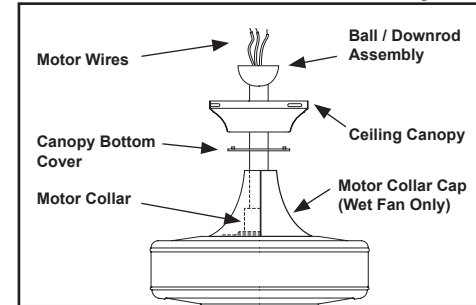

Figure 7
4. Route the wires exiting the top of the fan motor through the motor collar, motor collar cap (wet fan only), the canopy bottom cover, then the Ceiling Canopy. Make sure the slot openings are on top. Route the wires through the ball/downrod assembly (Figure 7).